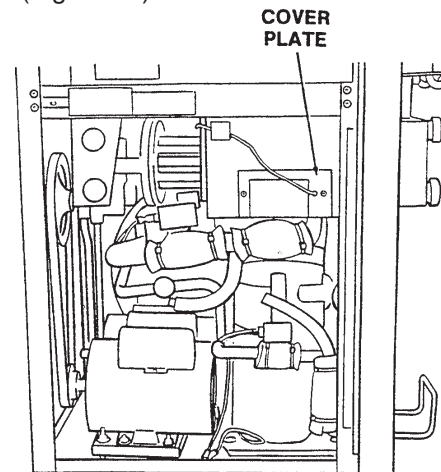

Figure 60. Cover Plate Removal
3. Remove the two (2) screws from the cover plate and pry off (Figure 60).